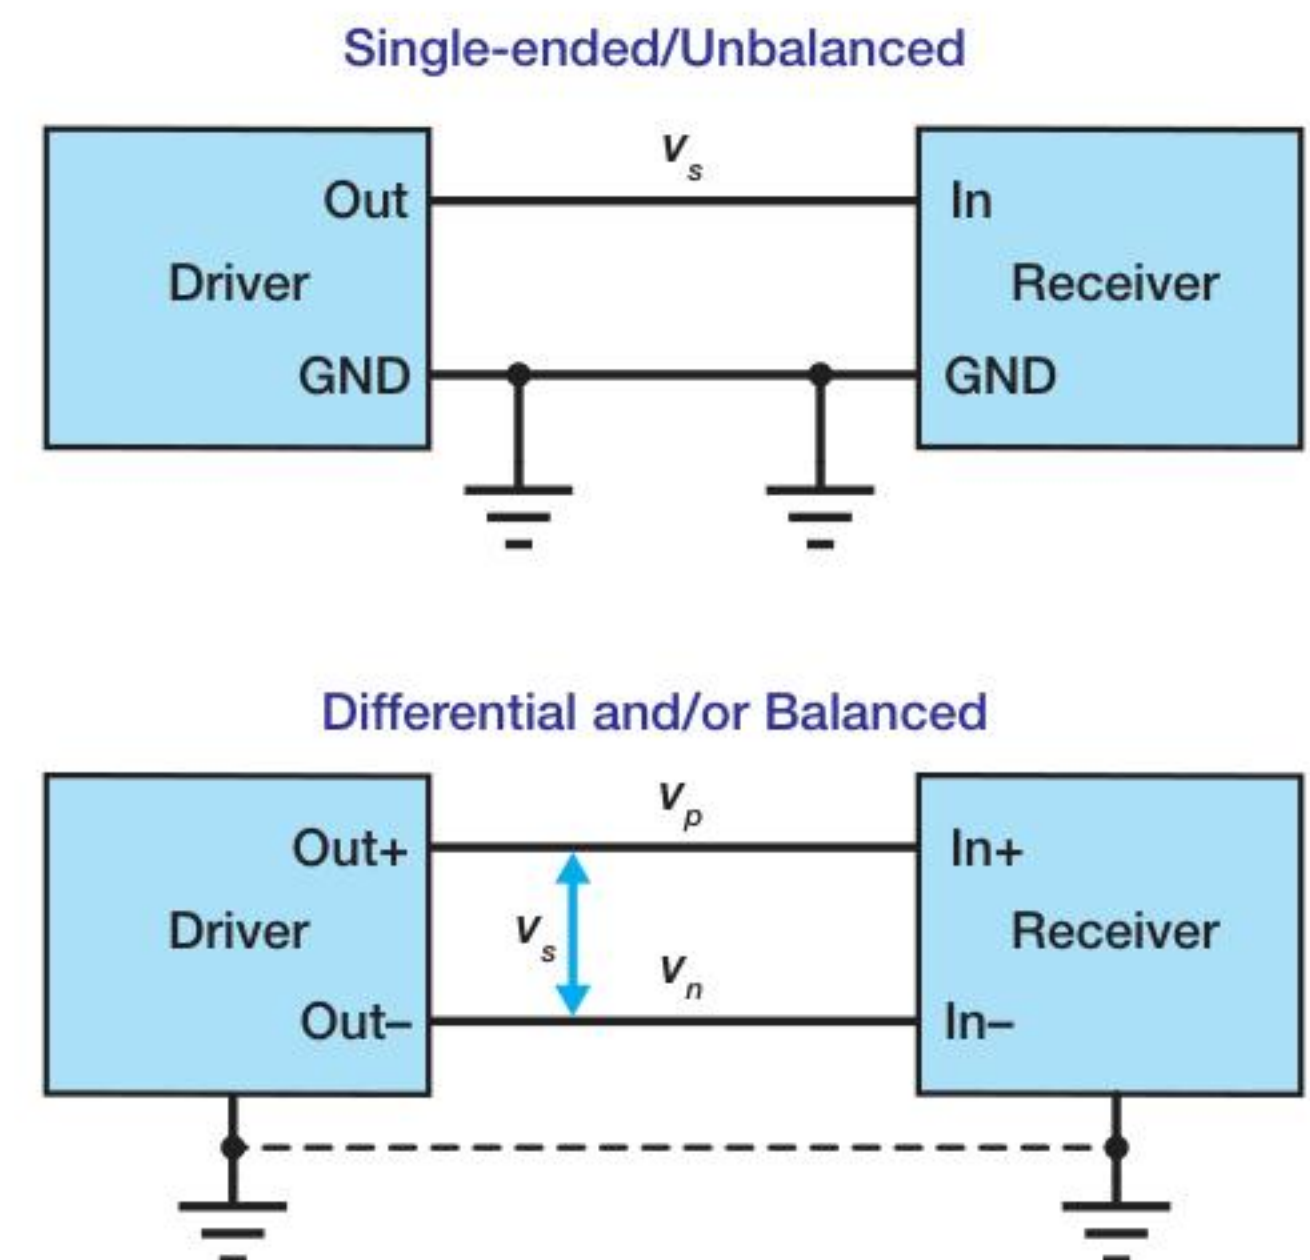

Fig.4: connection types and signals.
Fig.4 shows scenarios where two systems are connected together with a driver sending a signal to a receiver. This is a generic situation; the signals could be analog or digital and carry any kind of information. The upper diagram shows a single-ended connection, which is inherently unbalanced. The lower diagram could represent a balanced and/or differential connection.
In Fig.4, we labelled the differential signals or balanced connections as positive (P) and negative (N). In audio systems, these are often referred to as “hot” and “cold”.
If the signals are not galvanically isolated (no direct conduction path, eg, via transformers or opto-isolators), a ground connection is required between driver and receiver (shown dashed in Fig.4). This is to prevent possible ground voltage differences between the systems, taking circuits out of their operating range or even causing damage.